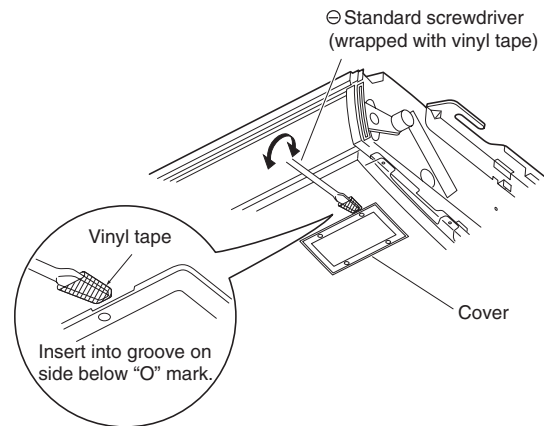
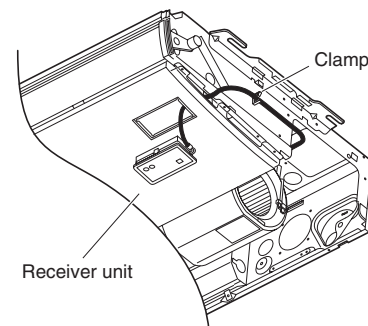

Fig. 3-8
Fig. 3-9
- (2) Wrap the end of a standard (flat) screwdriver blade with vinyl tape. Then insert the screwdriver blade into the groove on the side of the cover below the "O" mark, and pry open the cover. (Fig. 3-8) (Take care not to scratch the panel.)
- (3) Pass the lead wire through the panel, then install the receiver unit in the panel hole. (The projections on the receiver unit engage the panel holes to attach the unit.)
- (4) Fasten the receiver lead wire to the fastener that holds the louver motor wiring. (Fig. 3-9)
- (5) Reattach the side panel.